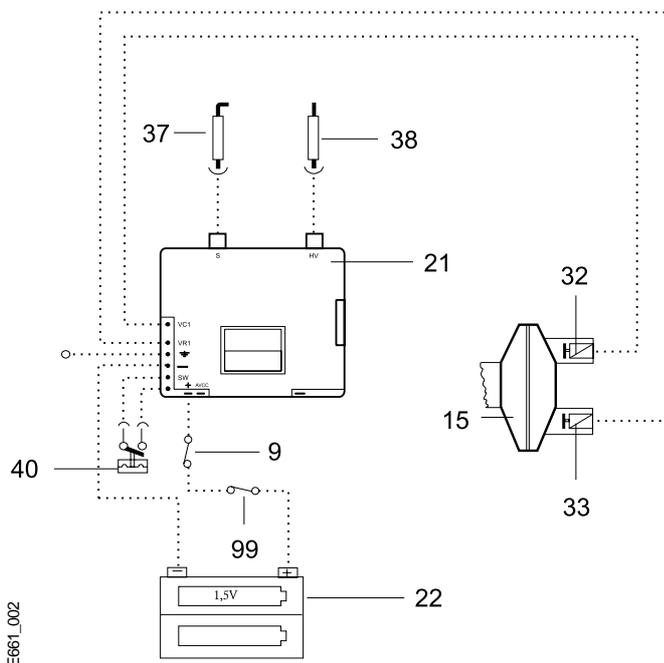

Fig. 16 - Electrical wiring diagram
5. Pilot electrovalve switch may need to be replaced (See Fig 16).
6. Electronic Control Box may need to be replaced, (See Fig 16).
4. The electrical Control Box (Fig. 16) may need to be replaced. Contact your service person or call: